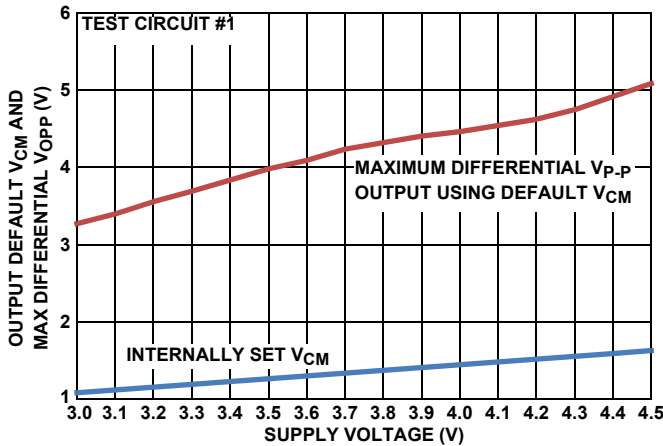
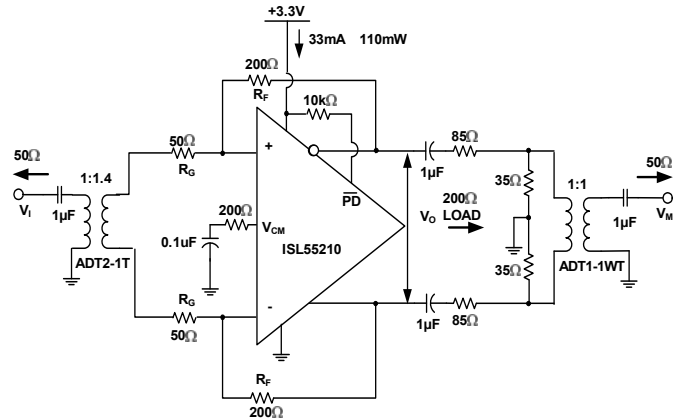
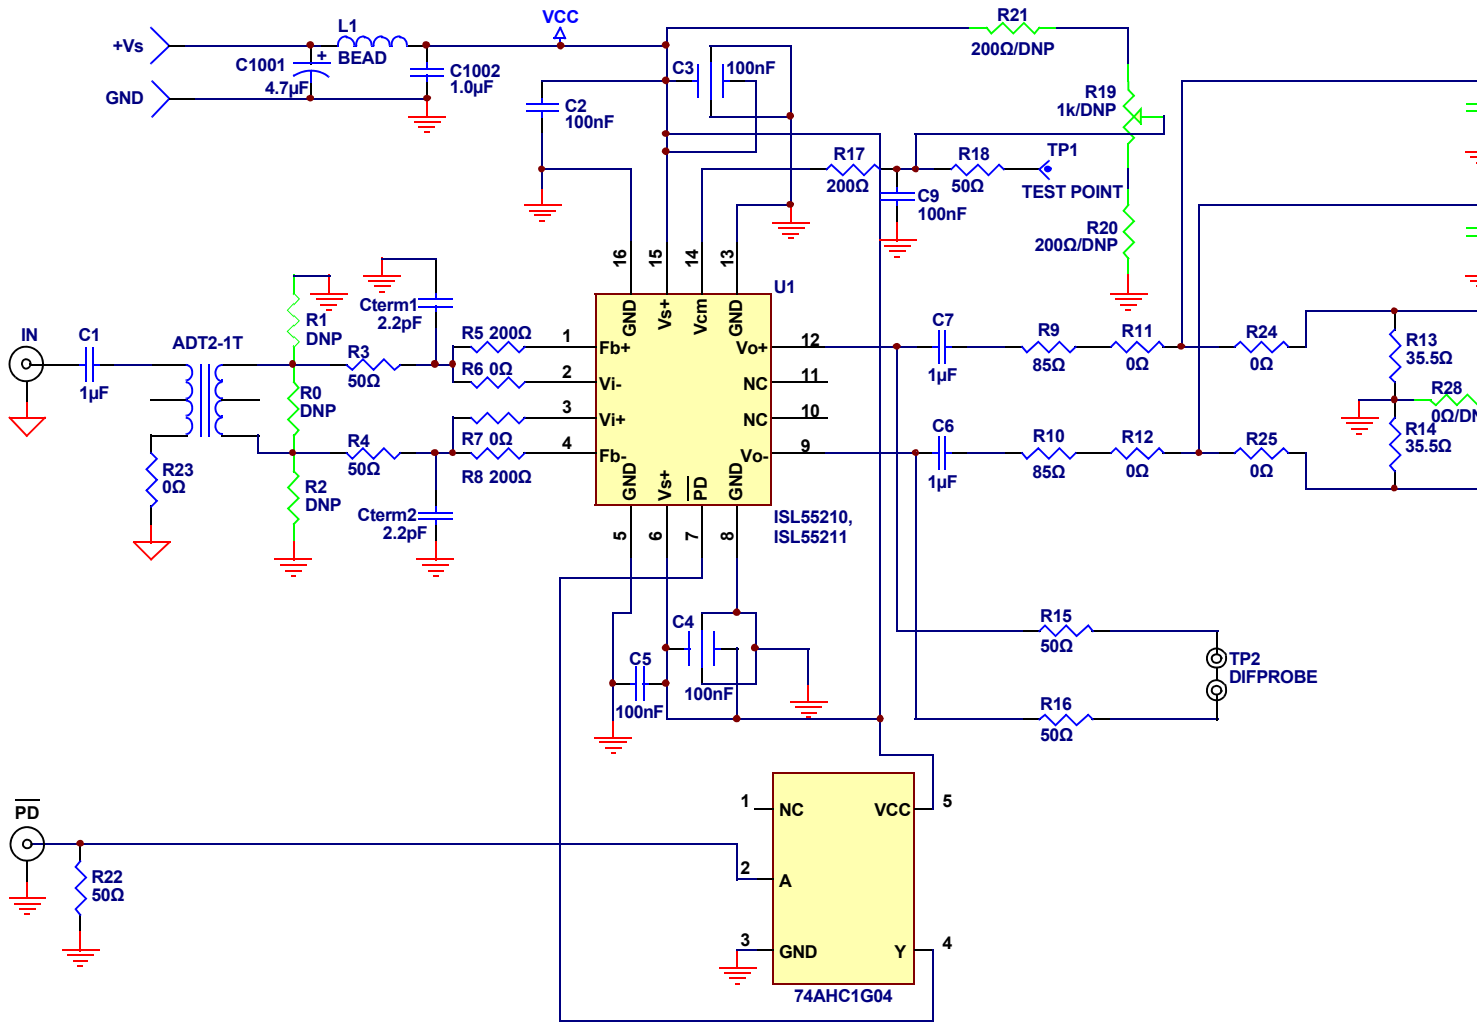

FIGURE 26. DEFAULT V_{CM} AND MAX V_{OPP} vs SUPPLY VOLTAGE
FIGURE 28. TEST CIRCUIT #1
FIGURE 38. SCHEMATIC FOR ISL55210, ISL55211 SINGLE INPUT TRANSFORMER EVM REV. C
The circuit of Figure 28 forms a starting point for many of the characterization curves for the ISL55210. Since most lab sources and measurement devices are single-ended, this circuit converts to differential at the input through a wideband transformer and would also be a typical application circuit coming from a single ended source. Assuming the source is a 50Ω impedance, the R_G resistors are set to provide both the input termination and the gain. Since the inverting summing nodes act as virtual ground points for AC signal analysis, the total termination impedance across the input transformer secondary will be $2 * R_G$. Setting this equal to $n^2 * R_S$ will give a matched input impedance inside the bandwidth of the transformer (where "n" is the turns ratio). The amplifier gain is then set by adjusting the feedback resistors
Working with a transformer coupled input as shown in Figure 28, or with two DC blocking caps from a differential source, means the output common mode voltage set by either the default internal V_{CM} setting, or a voltage applied to the V_{CM} control pin, will also appear as the input common mode voltage. This provides a very easy way to control the ISL55210 I/O common mode operating voltages for an AC coupled signal path. The internal common mode loop holds the output pins to V_{CM} and, since there is no DC path for an I_{CM} current back towards the input in Figure 28, that V_{CM} setting will also appear as the input common mode voltage. It is useful, for this reason, to leave any input transformer secondary centertap unconnected. The internally set V_{CM} voltage is referenced from the negative supply pin. With a single 3.3V supply, it is very close to 1.2V but will change with total supply voltage across the device as shown in Figure 26.
Most of the characterization curves start with Figure 28 then get different gains by changing the feedback resistor, R_F , use different input transformers where then the R_G is also adjusted to hold an input match, or vary the loading. For load tests below the 200 Ω shown in Figure 28, a simple added shunt resistor is placed across the output pins. For loads >200 Ω , the series and shunt load R's are adjusted to show that total load (including the 50 Ω measurement load reflected through the 1:1 output measurement port transformer) and provide an apparent 50 Ω differential source to that transformer. This output side transformer is for measurement purposes only and is not necessary for final applications circuits. There are output interface designs that do benefit from a transformer as part of the signal path, but the one shown at the right of Figure 28 is used only for characterization to get a doubly terminated 50 Ω measurement path going differential to single ended.
The characterization circuit of Figure 28 shows one possible input stage interface that offers several advantages. The ISL55210 can also support a DC coupled differential to differential or single ended input to differential requirement if needed. Where AC coupling is adequate, the circuit of Figure 28 simplifies the input common mode voltage control. If the source coming into this stage is single ended, the input transformer provides a zero power conversion to differential. The two gain resistors (R_G in Figure 28) provide both the input termination impedance and the gain element for the amplifier. For minimum noise, only R_G should be used and set to achieve the desired input impedance. Since the ISL55210 is a VFA device, these resistor values can be scaled up and down a bit more freely than a current feedback based FDA.
3.6V_{P-P} output capability. The V_{P-P} reported in Figure 26 is an asymmetrically clipped maximum swing. Going 10% above this 3.7V target to 4.1V will be within the recommended operating range and give some tolerancing headroom that would also suggest the V_{CM} voltage be moved up to approximately 1.5V. This coincides with the default output V_{CM} from Figure 26. Operating at +4.1V single supply in a Figure 28 type configuration will give the maximum linear available output swing of 3.6V_{P-P}.
The differential inputs of the ISL55210 also have operating range limits relative to the supply voltages. Operating in an AC coupled circuit like Figure 28 will produce an input common mode voltage equal to the outputs. The inputs can operate with full linearity with this V_{CM} voltage down to 1.1V above the GND connection (or -V_S supply). On the default 1.2V output V_{CM} on +3.3V supplies this gives a 100mV guardband on the input V_{CM} voltages. Overriding the default V_{CM} by applying a control voltage to the V_{CM} pin should be done with care in going towards the negative supply due to this limit. On the + side, the maximum V_{CM} above the -V_S supply is 2V so there is more room to move the output V_{CM} up than down from the default value.
Test circuit #1 (Figure 28) is implemented on an Evaluation Module Board available from Intersil. This board includes a number of optional features that are not populated as the board is delivered. The full EVM board circuit is shown in Figure 38 where unloaded (optional) elements are shown in green.